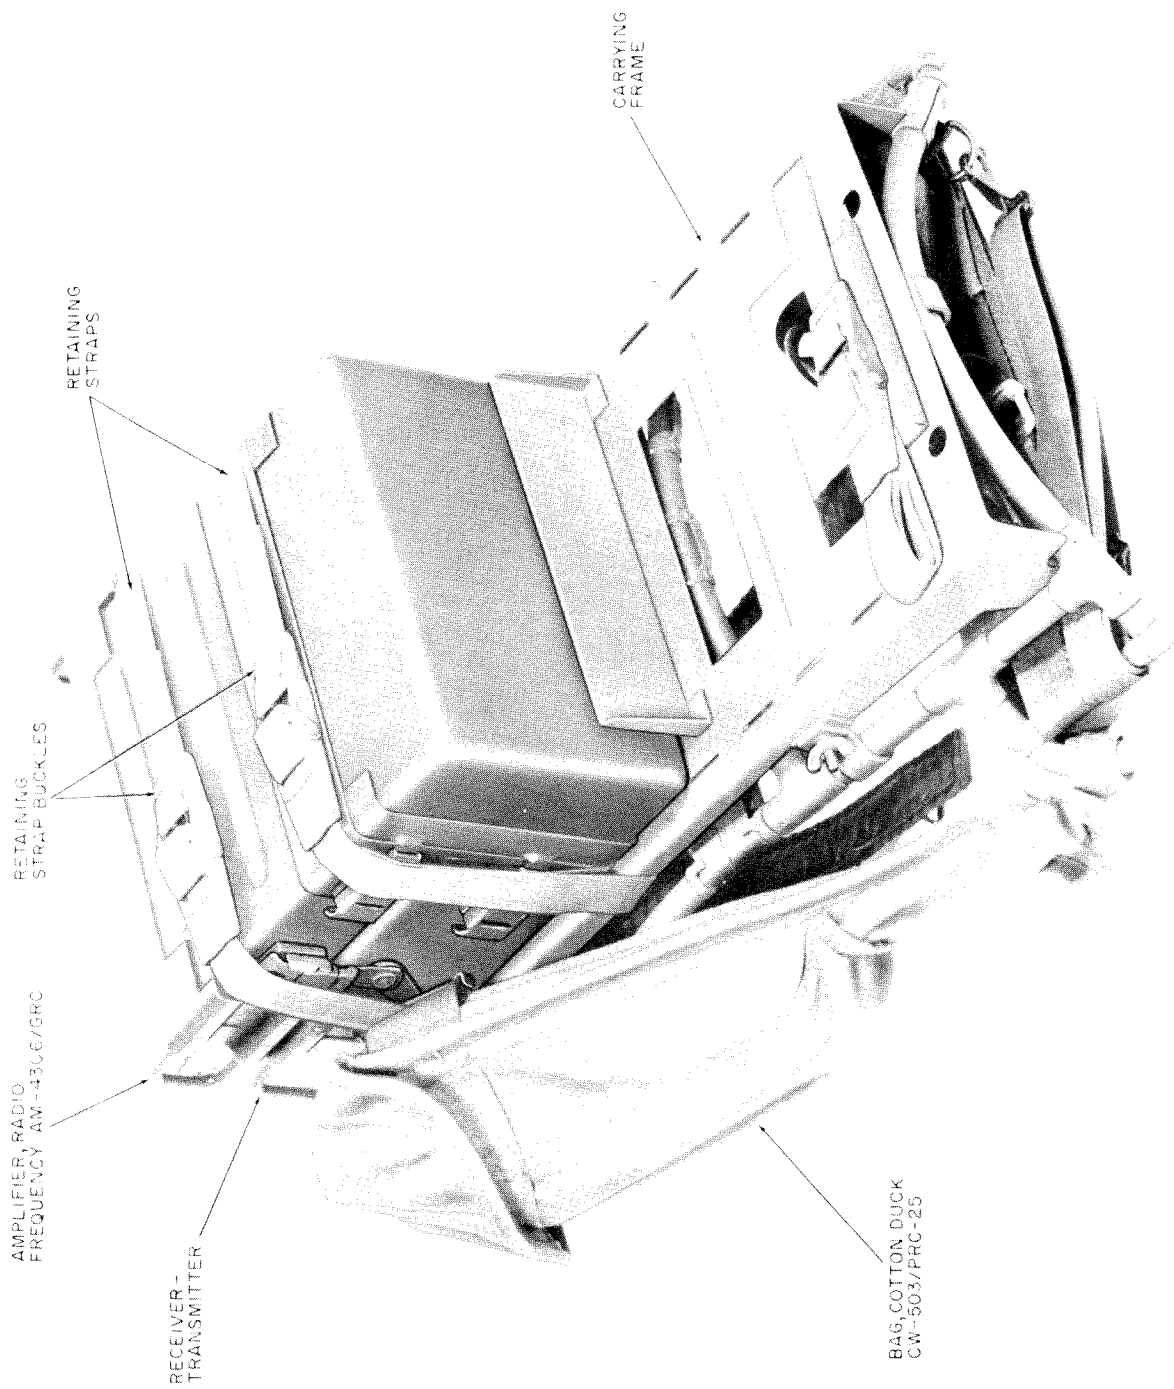

Figure 2-4. AM-4306/GRC and receiver-transmitter installed in carrying frame.
d. Attach the AM-4306/GRC receiver-transmitter combination to the carrying frame (fig. 2-4) as follows:
(1) Place the carrying frame on a flat, level surface with the braces facing upward.
(2) Place the AM-4306/GRC and receiver-transmitter combination on the carrying frame with the front panels toward the top.
(3) Fasten the AM-4306/GRC and receiver-transmitter combination to the carrying frame with the two retaining straps; feed the metal tipped straps through the retaining strap buckles and then through the end slot in the retaining strap buckles.